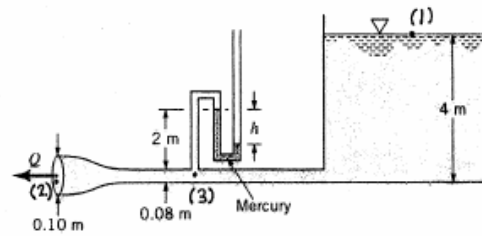

FIGURE P3.53
3.53 Water flows steadily from the large open tank shown in Fig. P3.53. If viscous effects are negligible, determine (a) the flowrate, Q , and (b) the manometer reading, h .